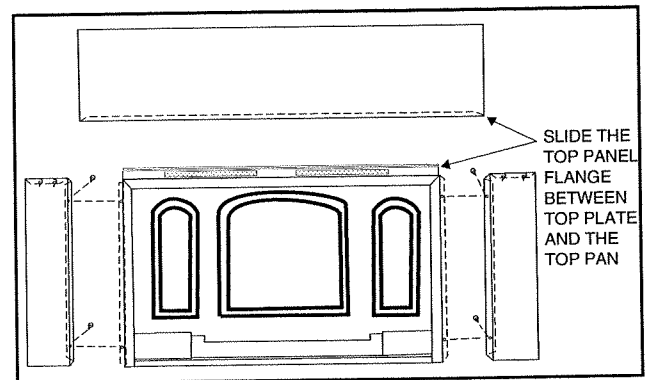

Figure 9
Carefully remove the surround parts from the shipping carton. Attach two (2) screws and spacers in the holes at the top of each side panel. Slide the top panel flange between the top plate and the top pan and push into place. The slots in the top panel should line up and snap over the spacers installed on the side panels. Attach side panels from the surround to the heater through the access holes using the screws provided. See Figure 9.